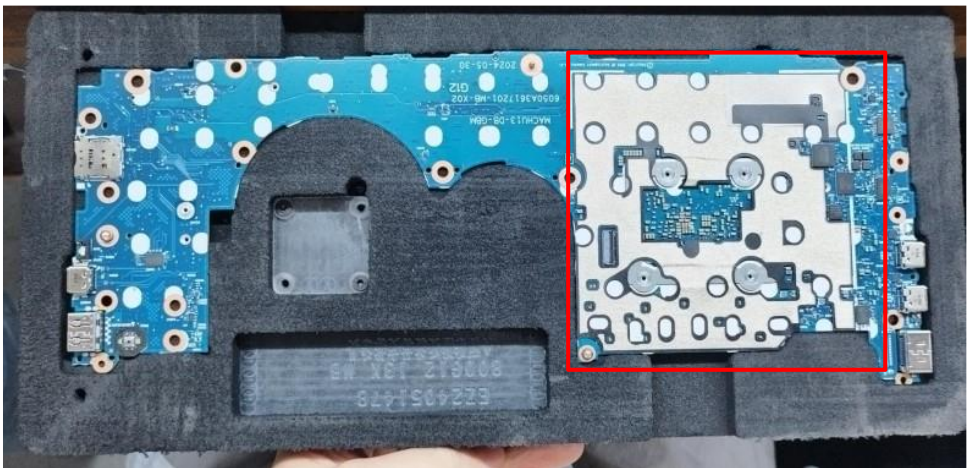

Figure 1
1. Remove the wave absorber (6054B3087201) from the MB (Figure 1).